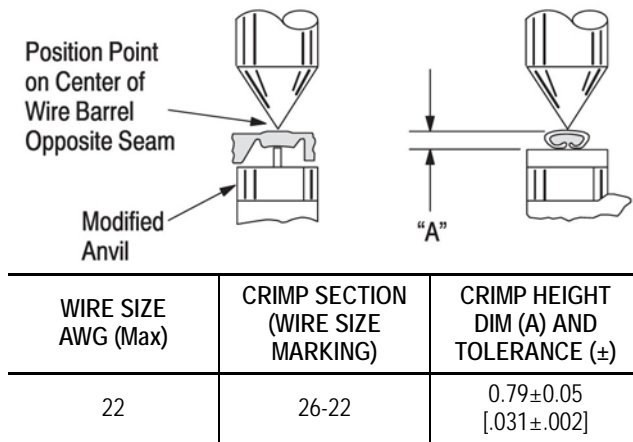

Figure 4
*This tool is provided with a crimp adjustment feature. Initially, the crimp height should be verified as specified in Figure 4. Refer to Section 6, Crimp Height Inspection, and Section 7, Crimp Height Adjustment, to verify crimp height before using the tool to crimp desired contacts and wire sizes.*
1. Refer to Figure 4 and select a wire (maximum size) for the crimp section.
3. Using a crimp height comparator, measure the wire barrel crimp height as shown in Figure 4. If the crimp height conforms to that shown in the table, the tool is considered dimensionally correct. If not, the tool must be adjusted. Refer to Section 7, CRIMP HEIGHT ADJUSTME